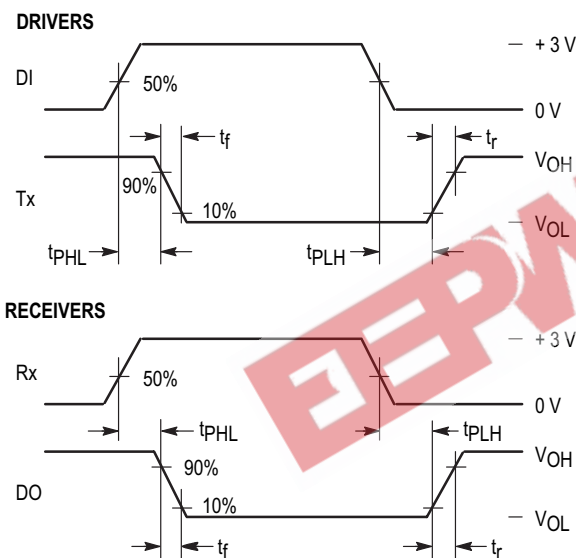

Figure 2. Switching Characteristics
**SWITCHING CHARACTERISTICS** ( $V_{CC} = +5\text{ V}$ ,  $\pm 10\%$ ,  $V_{DD} = +12\text{ V}$ ,  $V_{SS} = -12\text{ V}$ ,  $T_A = -40\text{ to }+85^\circ\text{C}$ ; See Figures 2 and 3)